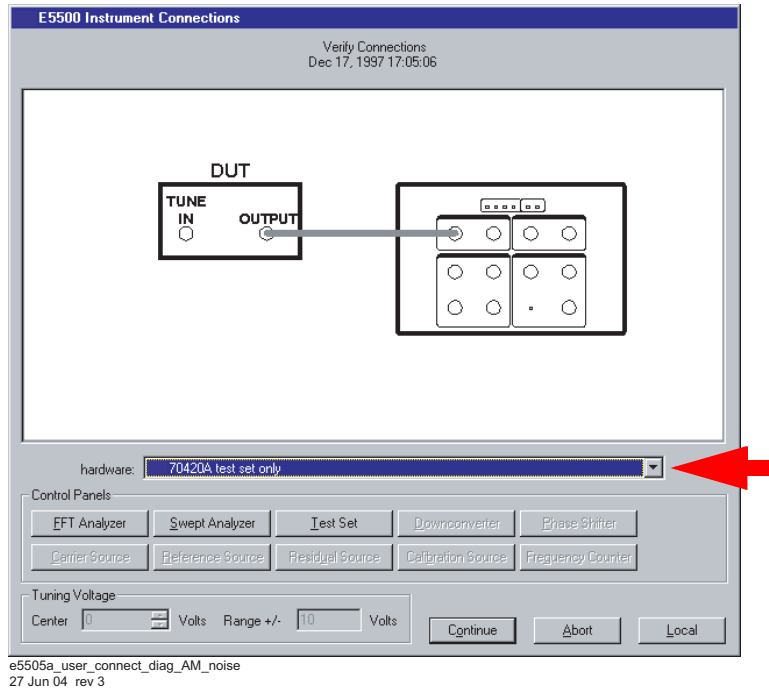

Figure 246 Connect diagram for the AM noise measurement
- 3 When the **Connect Diagram** dialog box appears, click on the hardware drop-down arrow and select your hardware configuration from the list. See Figure 246 on page 318.